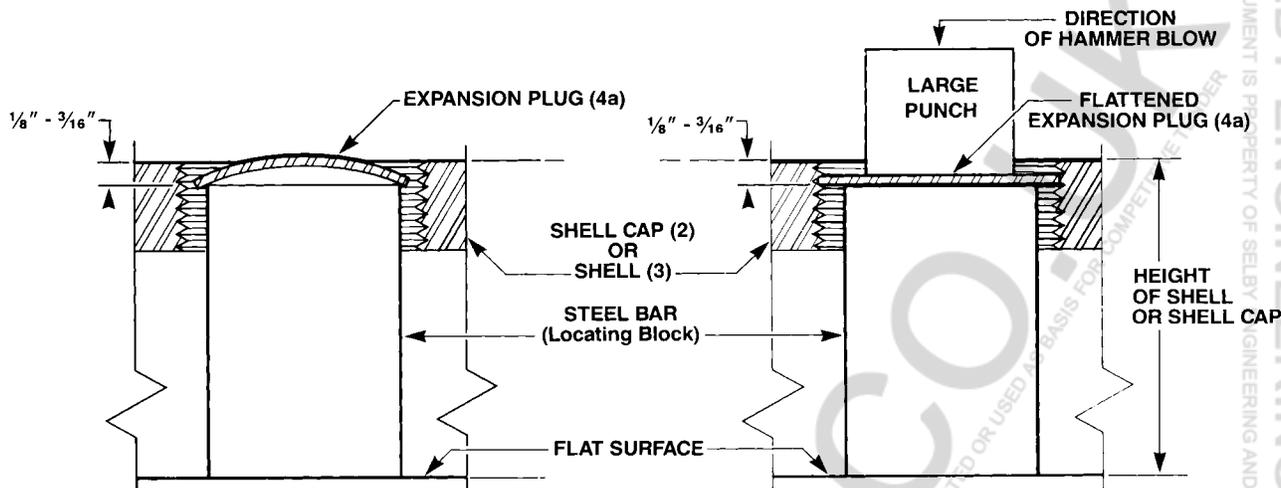
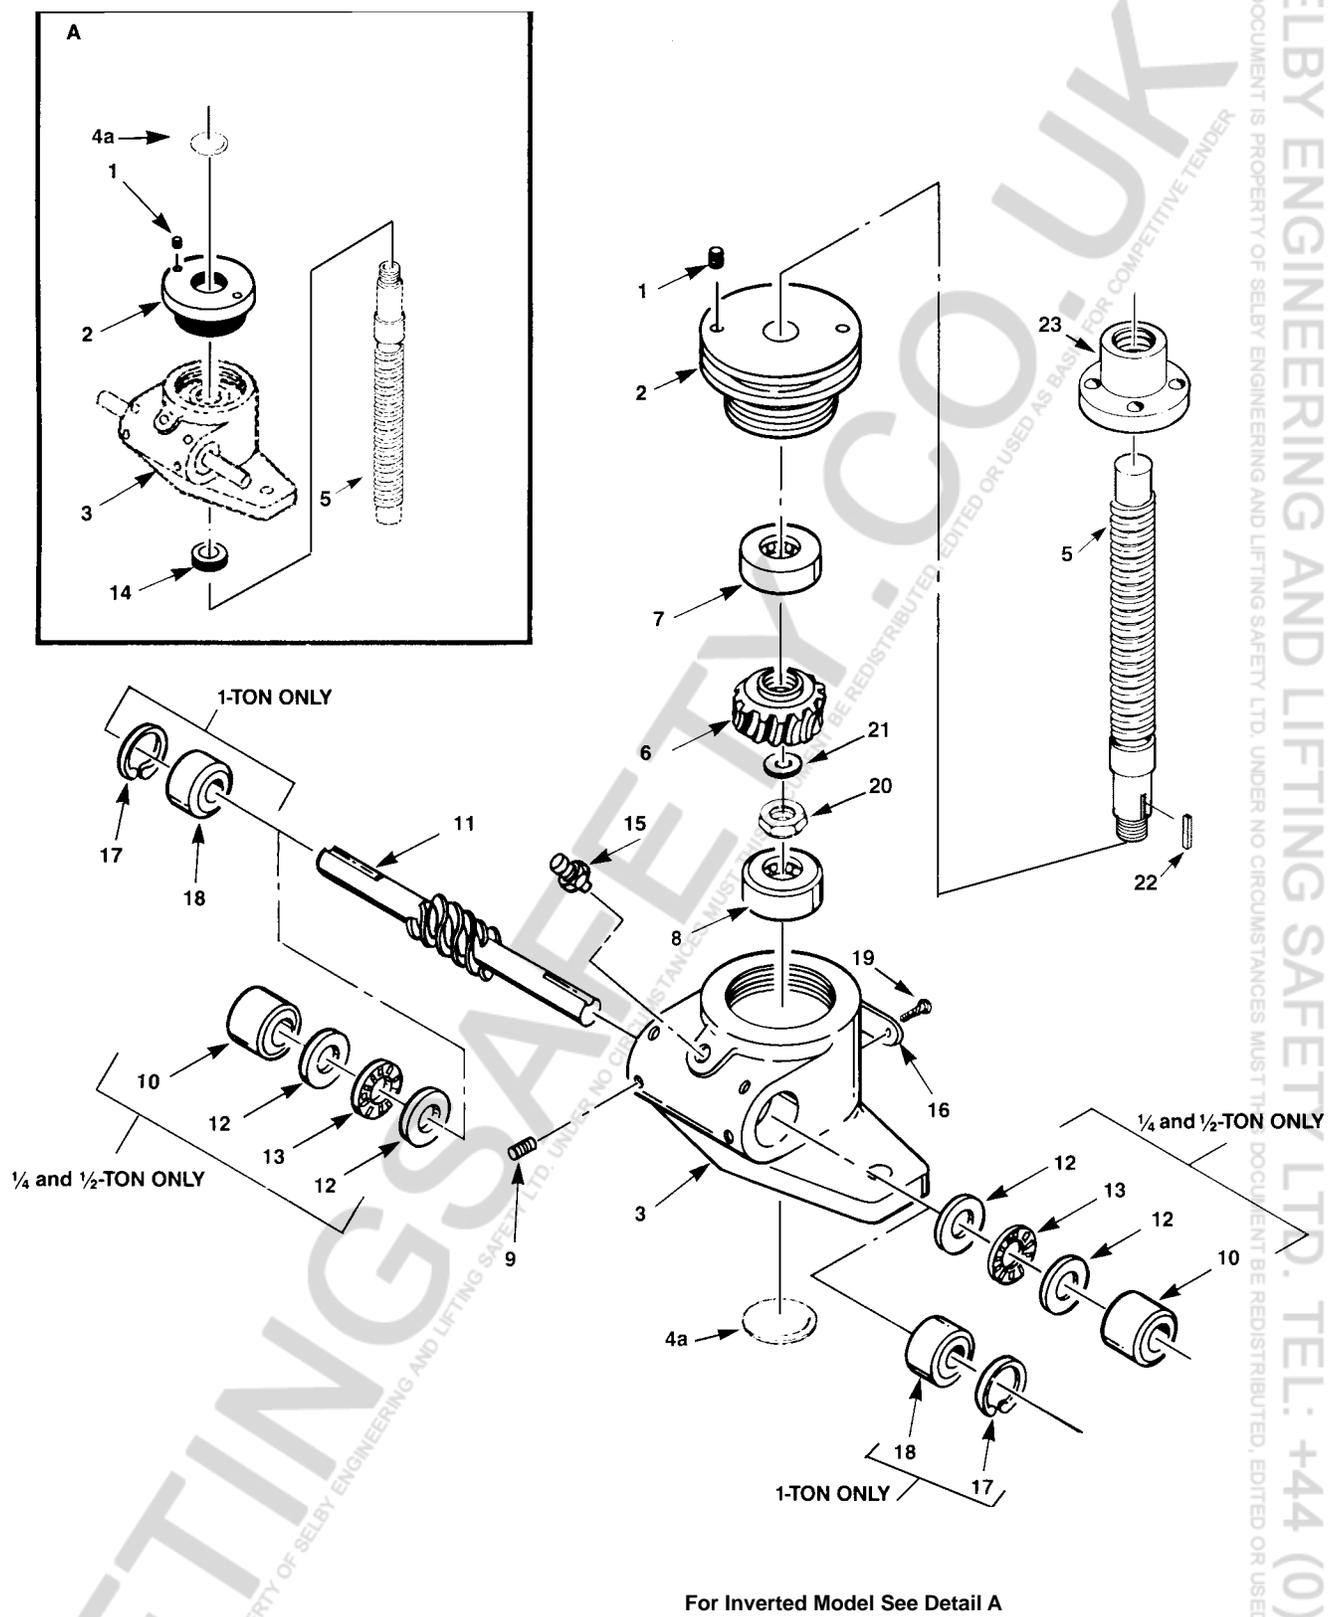

Figure 2-1. Expansion Plug Replacement
Figure 3-1. Exploded Illustration 1/4, 1/2 and 1-Ton Rotating Machine Screw Actuators
2-6. Inspection (Refer to Figure 3-1)
2-7. Assembly (Refer to Figure 3-1)
1. To replace expansion plug (4a) refer to Figure 2-1. For upright models, plug is installed in shell (3) (see Figure 3-1) and in shell cap (2) for inverted units (see Figure 3-1, Detail A).
- a. As is appropriate, set shell cap (2) or shell (3) over a steel bar which is approximately 1/8" or 3/16" shorter than the shell or shell cap. The diameter of the bar should be close to the I.D. of the shell or shell cap.
2. For 1-ton models, press bearing cones on worm gear (6) with small end of cone facing away from gear surface. Be sure that cone is seated properly against shoulder.
3. Insert key (22) in screw (5).
4. Assemble worm gear (6) on screw (5).
5. Assemble lock washer (21) if used and lock nut (20) to screw (5). Torque lock nut to appropriate torque as follows: 1/4 ton-100 in-lb.; 1/2 ton-180 in-lb.; 1 ton-40 ft-lb.
6. **Inverted units only.** Install guide bushing (14) in shell (3). Guide bushing must be flush with base. Lock guide bushing in place by peening on the thread O.D. of the bushing and shell with a center punch.
7. Place bottom load bearing (8) into shell (3) -on 1-ton units, press bearing cup into shell first.
8. Install worm (11) into housing (3). For 1/4-ton and 1/2-ton models- proceed as follows:
- a. Slide thrust race (12), needle bearing (13) and another thrust race on each end of worm (11).